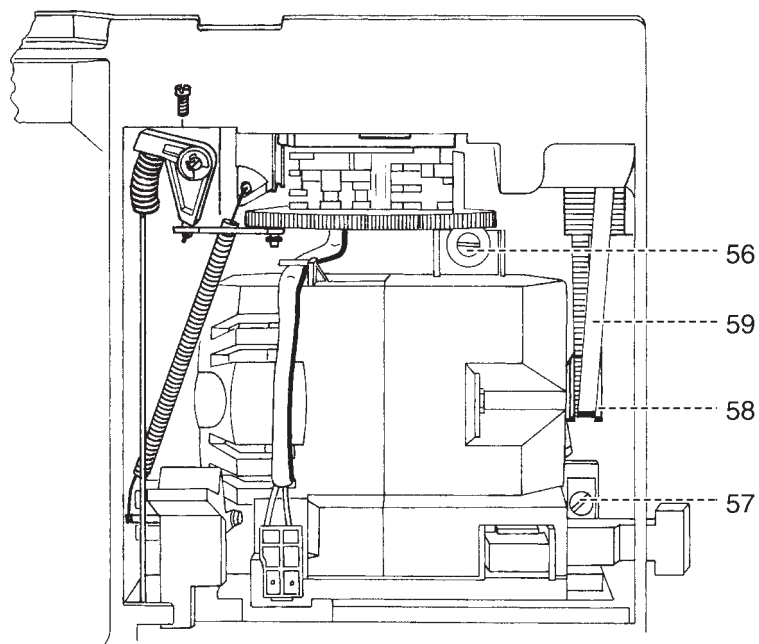

Fig. 117
- Remove the two screws 56 and 57 of the motor (fig. 117).
- Insert the new toothed belt 59 and press it up until there is enough space for the handwheel (fig. 117).